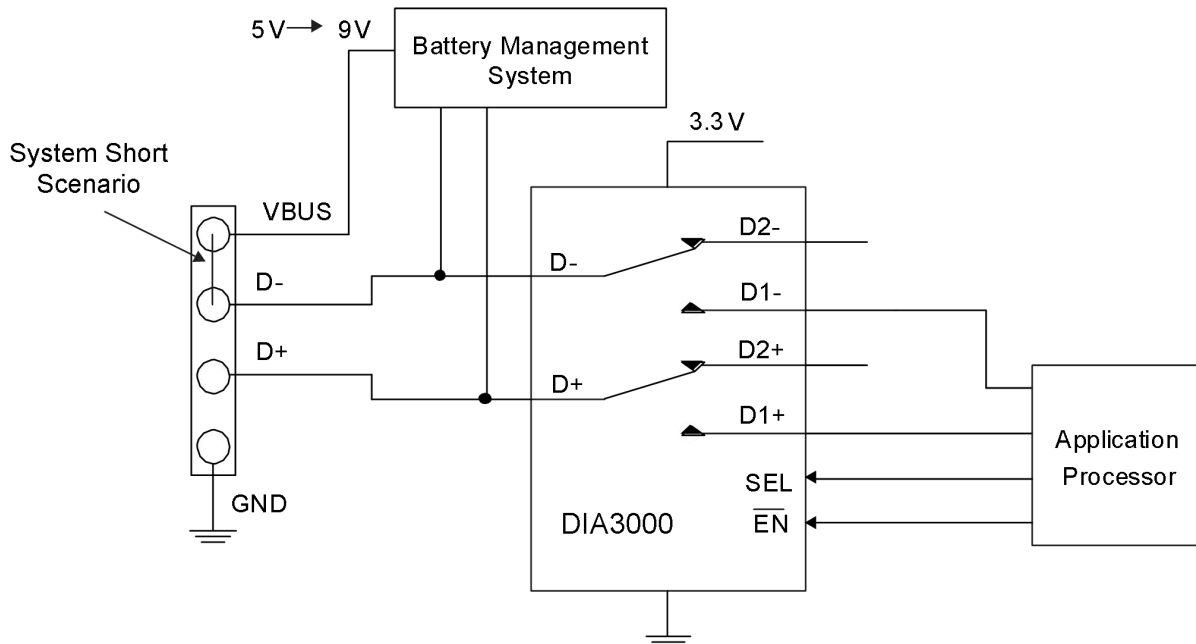

Figure 6. Potential VBUS to D-short example
In Figure 6, the system has an application processor (AP) which cannot survive 9 V on the USB data lines. The following procedure protects the system and the DIA3000.